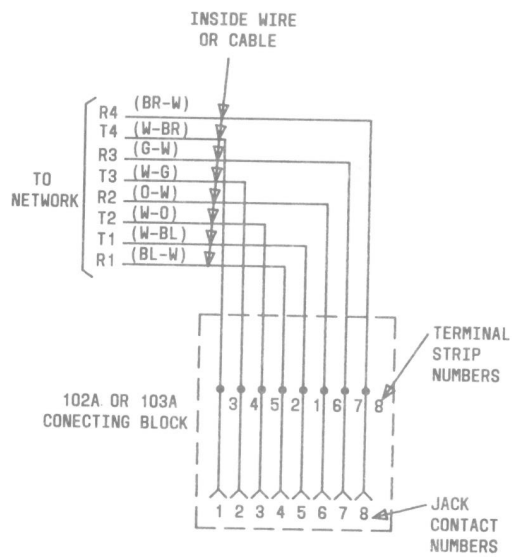

Fig. 4—Connections for USOC RJ61X Using 102A or 103A Connecting Block
2.01 The USOC RJ61X provides for the bridged connections of the tip and ring (maximum four) telephone lines to the registered equipment (Fig. 4).